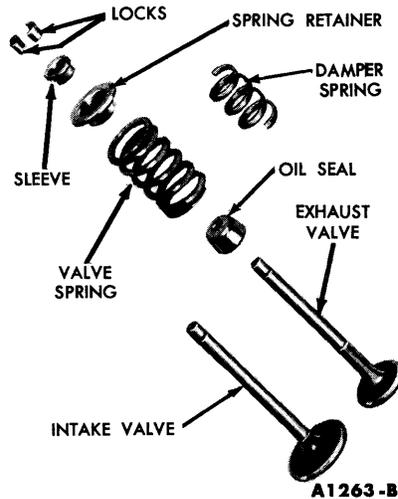

FIG. 40—Valve Assembly
1. Install each valve (Fig. 40) in the port from which it was removed or to which it was fitted. Install a new stem seal on the valve.